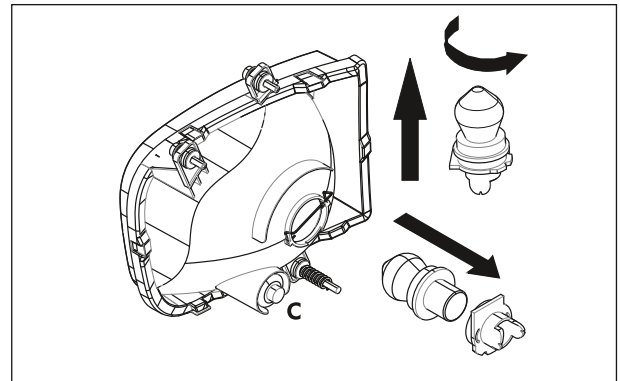

Fig. 6.54
- Pull out the parking lamp bulb holder (C) from the headlamp assembly. (Fig. 6.54)